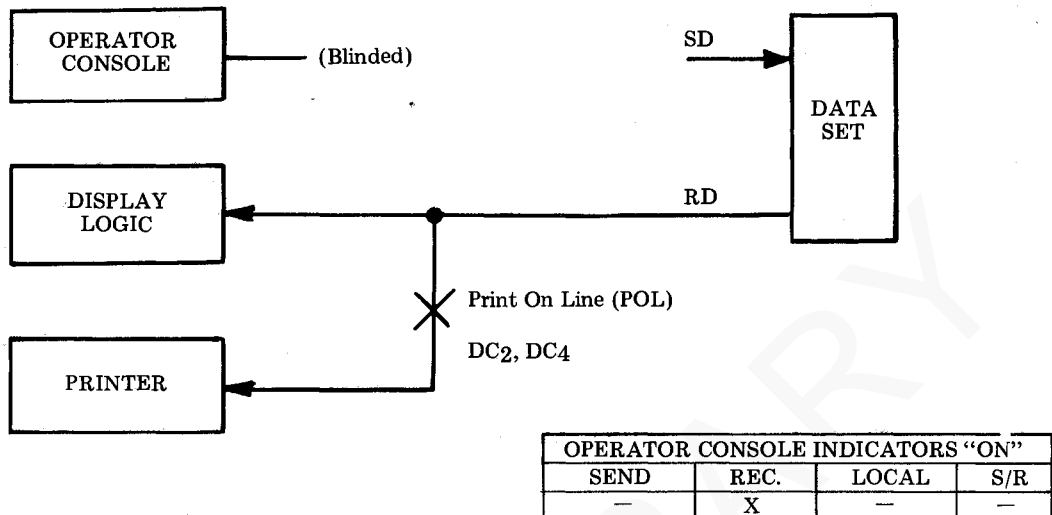

Fig. 2—Receive Mode
7.22 In the receive mode (Fig. 2), the controller interfaces the input data line to the display logic. In this mode, the opcon is blinded except for the mode select keys. All data received from the line will appear on the monitor, unless one of the "Reject" options is being used. See Section 582-200-202 for descriptions of available options.